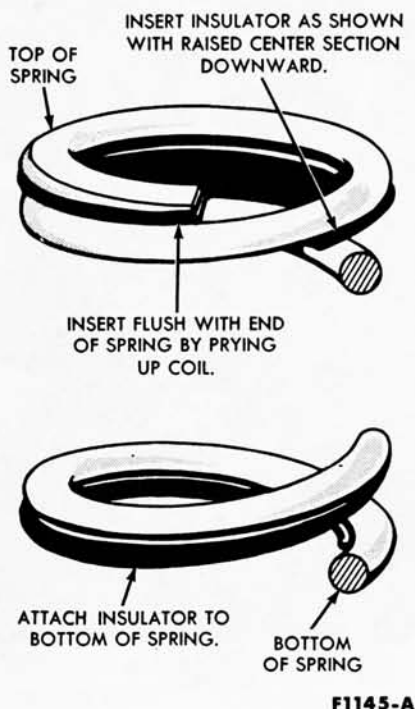

FIG. 8 – Front Spring Insulator Installation
1. Insert one helix-type insulator between the two top coils of the spring and attach the other to the bottom coil (Fig. 8). Secure both insulators with tape.